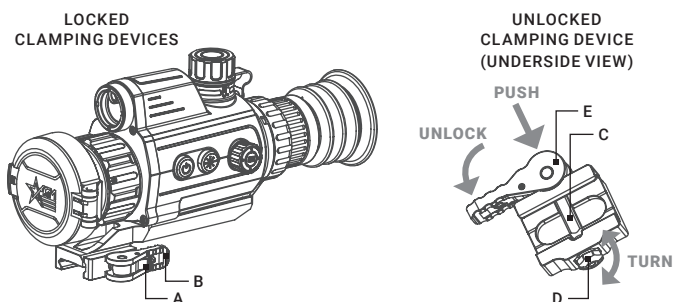

FIGURE 2-5. MOUNT
To install the VarmintV2 LRF with quick release mount to a Picatinny/Weaver rail, perform the following (Figure 2-5):
2. With the clamping device unlocked (as shown in Figure 2-5), push the cam (E) towards the arrow, which will cause the nut (D) to slide out of its hole.
3. To tighten/ loosen the clamping device, push down on the cam (E) and turn the nut (D) CW/ CCW respectively, in one-two increments (see note below). Much like when the cam (E) is released, backward-moving spring will cause the nut (D) to slide back into its hole.